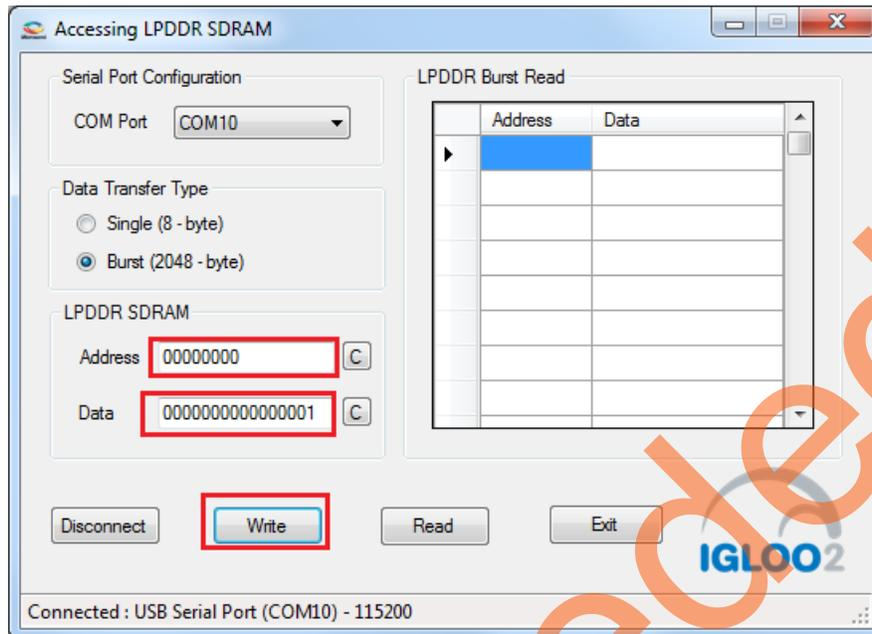

Figure 24 • Burst Write operation
- Figure 24 shows the **Address** and **Data** values entered for a Burst Write operation.